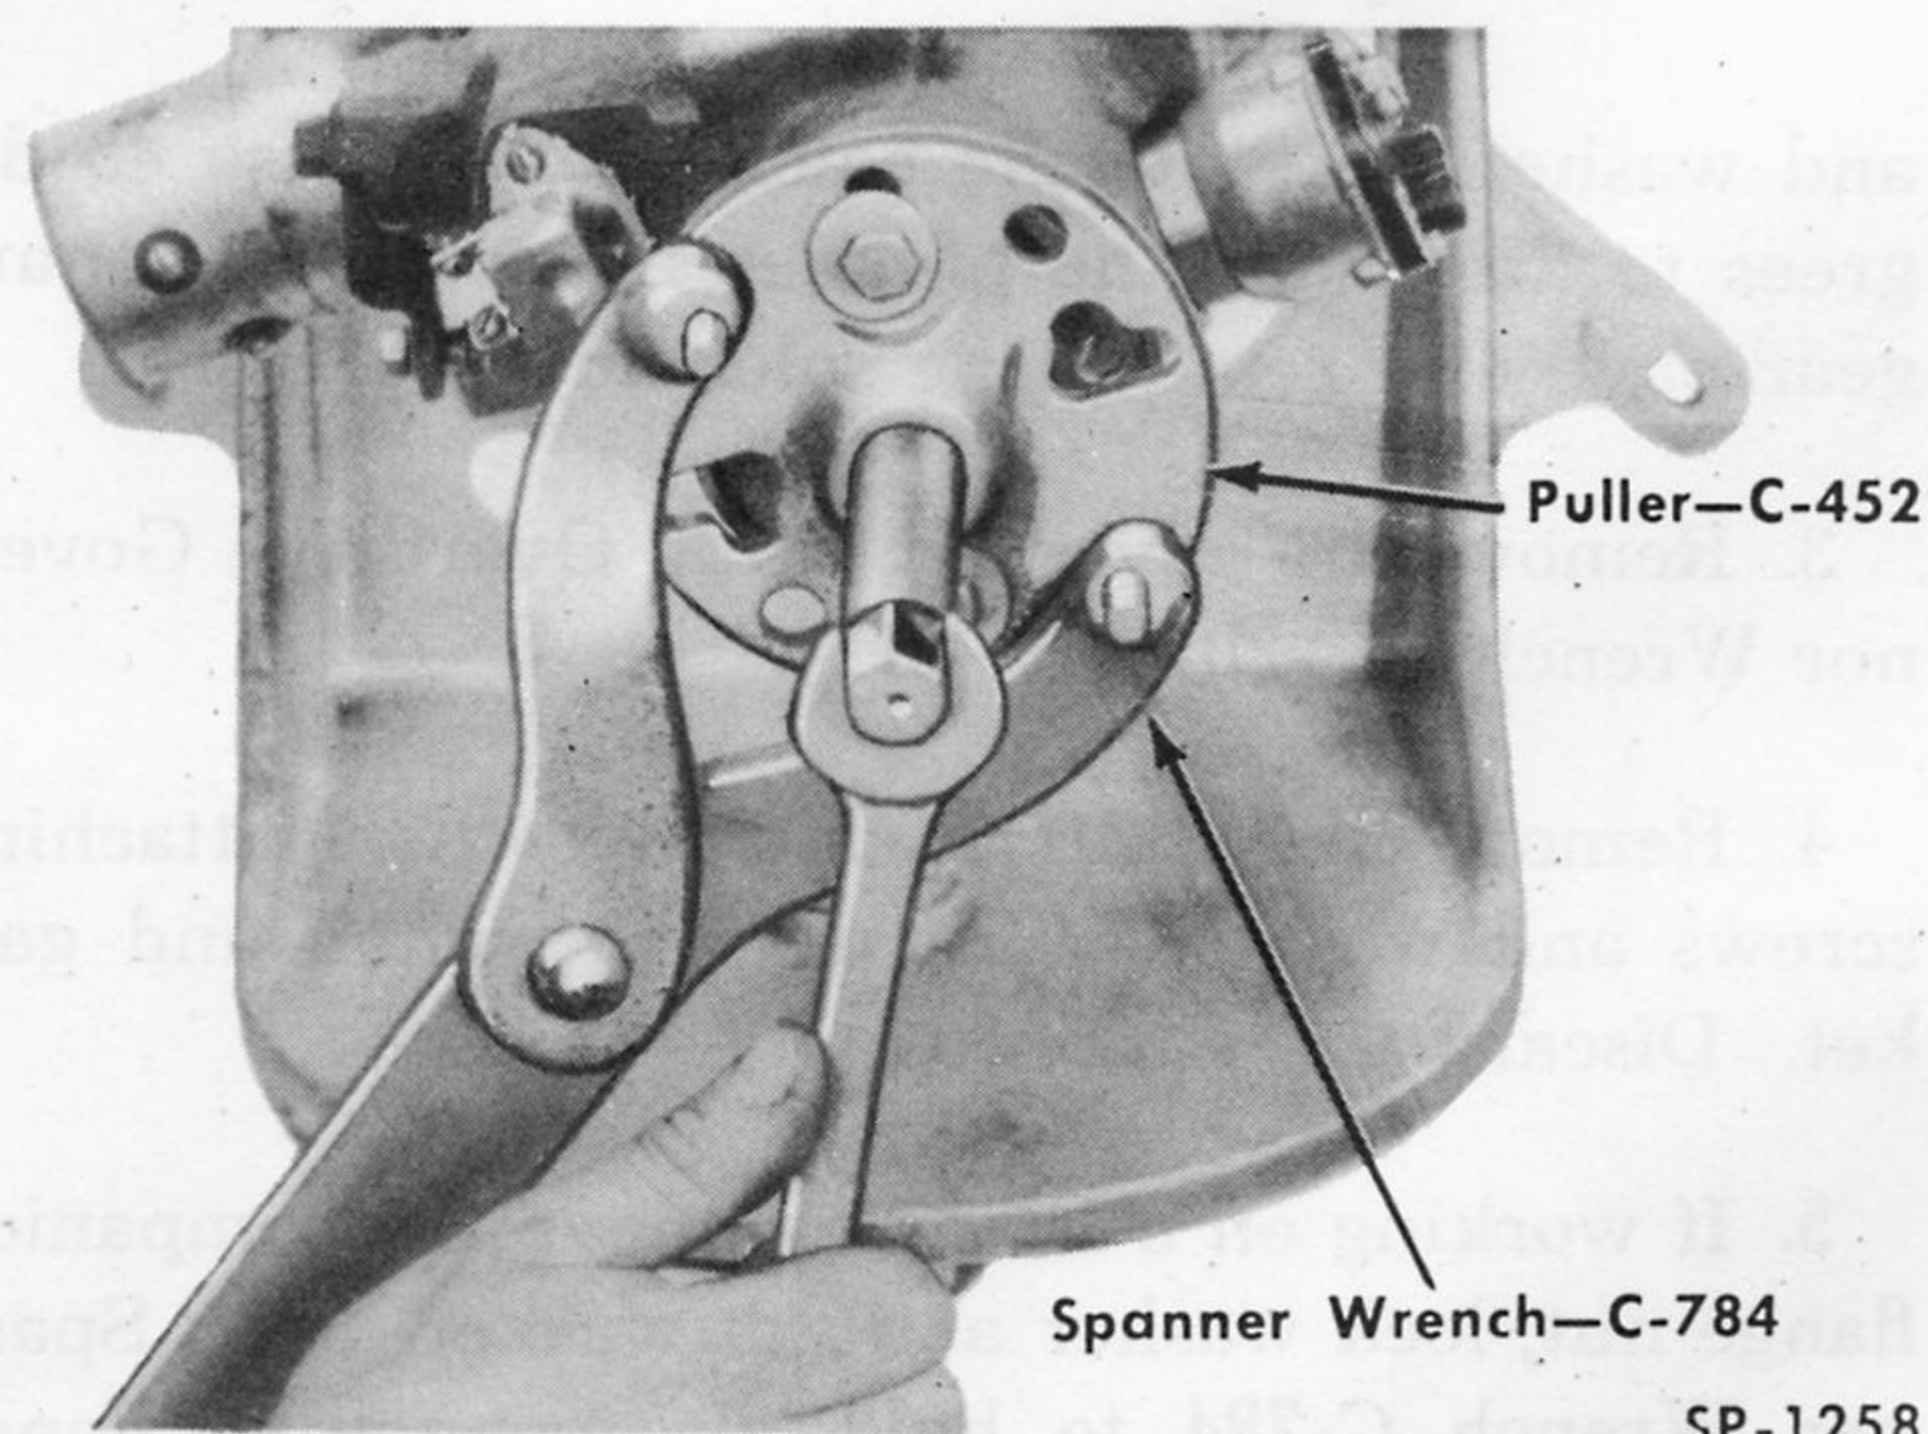

Fig. 212—Removing Companion Flange—Frazer
5. If working on a Frazer, remove the companion flange nut, lock washer and flat washer using Spanner Wrench C-784 to hold the companion flange from turning. Refer to Fig. 212.
6. Remove the companion flange using Flange Puller C-452 (Fig. 212).